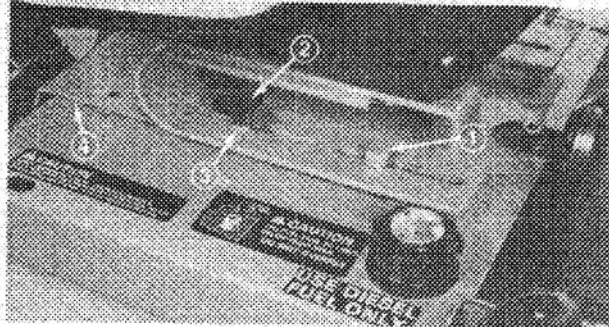

Figure 4
- Mount seat and springs to rear holes in mount plate with (2) shoulder bolts, flatwashers and locknuts (Fig. 4).
- Secure front slots of seat springs to mount plate with adjustment handles and flatwashers (Fig. 4).